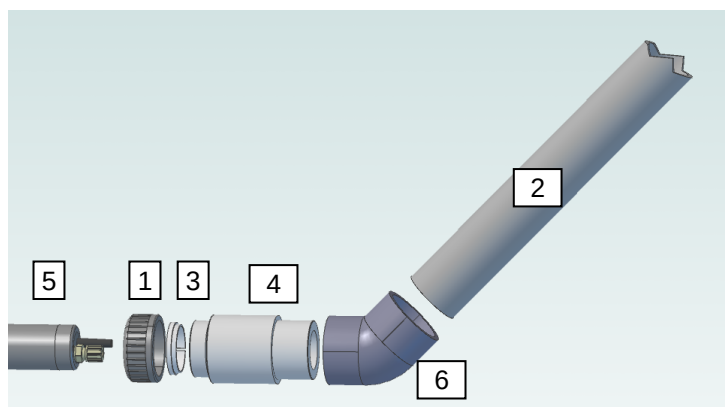
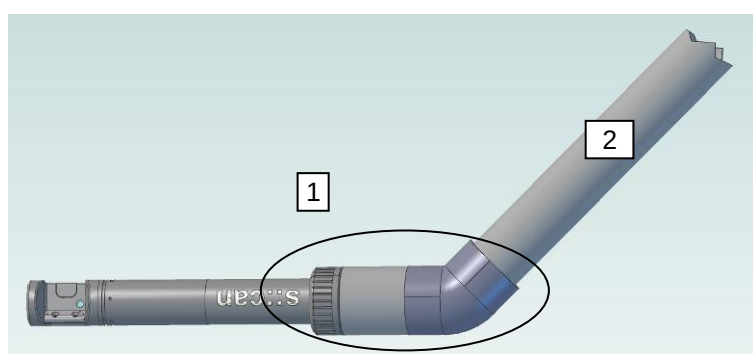

Fig. 6-5: Mounting with probe carrier
Fig. 6-6: Final assembly in carrier
1. Normally the carrier is shipped assembled as shown within the circle in Fig. 6-6. In case the carrier is not assembled position the parts as shown in Fig. 6-5 and assemble parts 1, 3, 4, 6. Parts 4 and 6 shall be glued together.
4. Now slide the i::scan into the carrier and fix it using the lock. The final assembly should look like Fig. 6-6.